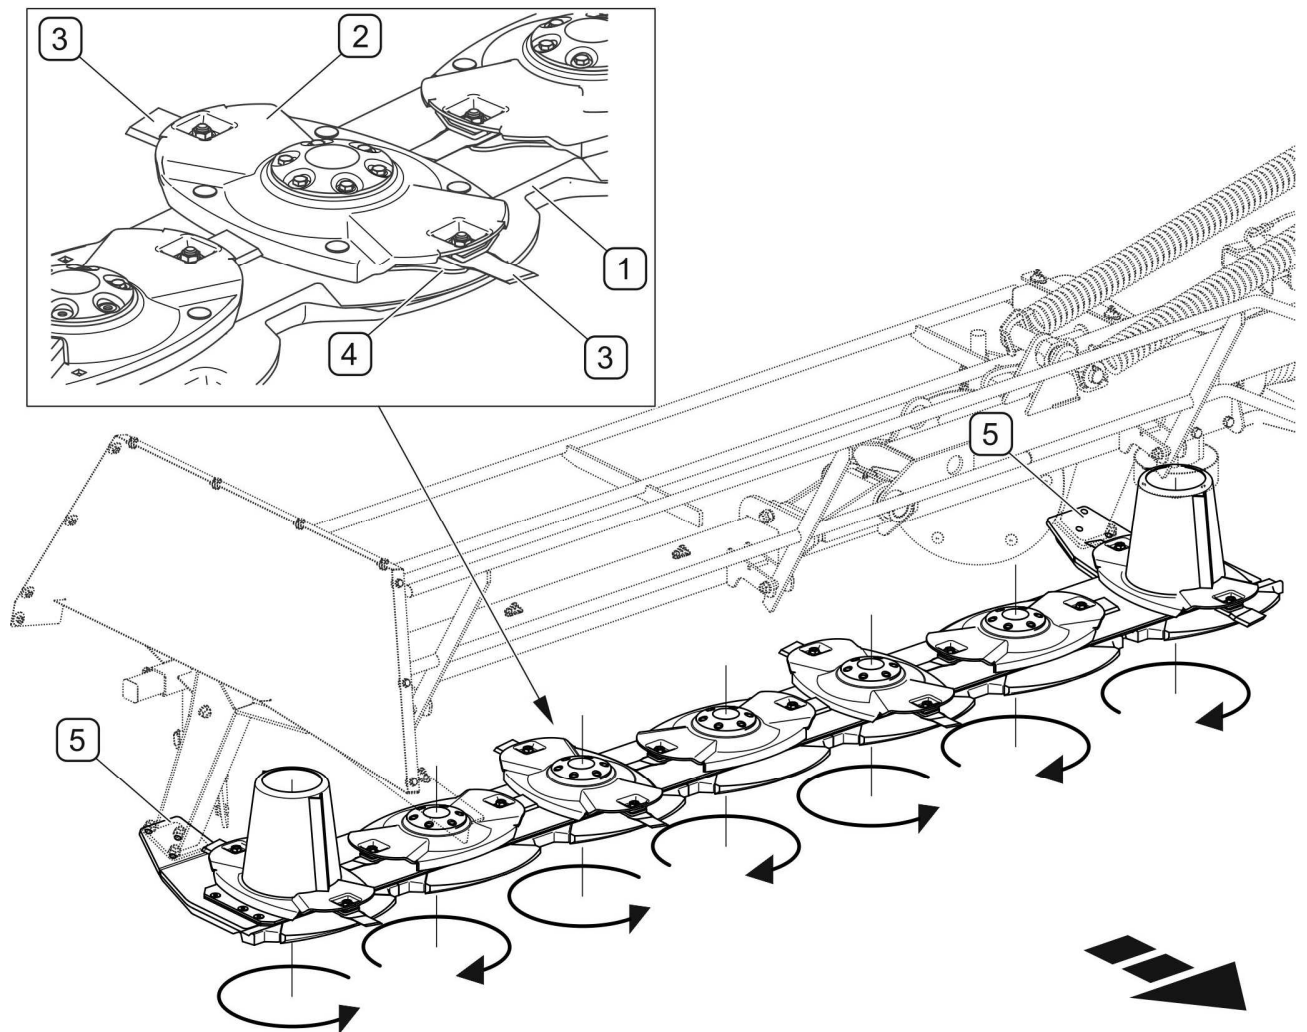

FIG. 3.5A Cutting unit
(1)- cutterbar, (2)- cutting disc, (3)- knife, (4)- knife holder; (5)- foot
Cutting unit of the PDT290 / PDT290C mower comprises the cutterbar (1) on which are mounted seven cutting discs (2). The cutterbar is mounted to the frame with the aid of a foot (5). Two cutting knives (3) are mounted on each of the cutting discs, right or left depending on disc rotation direction. Disks are equipped with knife holders (4). Rotation direction of individual discs is shown on figure 3.5A.